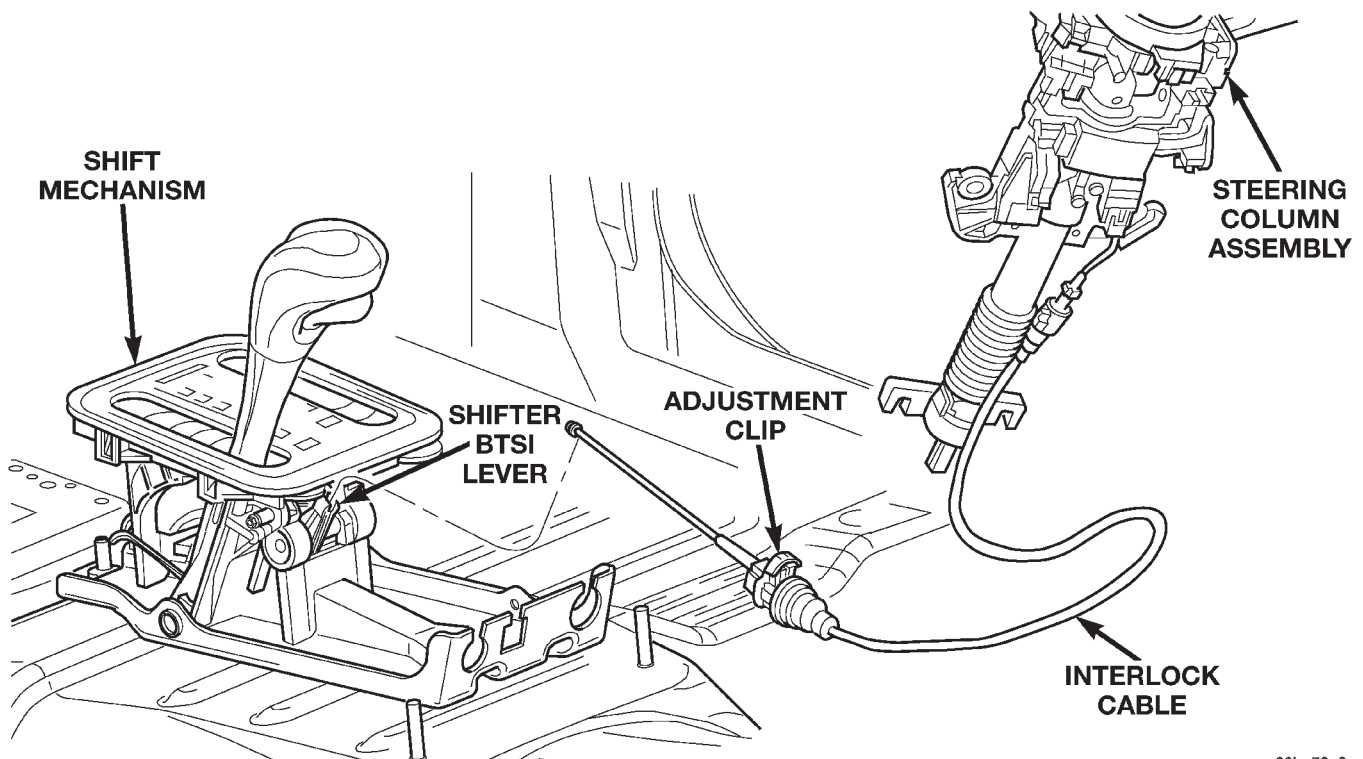

Fig. 256 Brake Transmission Shift Interlock Cable
- (1) Shift the transmission into the PARK position.
- (2) Turn ignition switch to LOCK position. **Be sure ignition key cylinder is in the LOCK position. Cable will not adjust correctly in any other position.**
- (3) Remove shift lever bezel and floor console as necessary for access to the brake transmission shift interlock cable.
- (4) Pull cable lock button up to release cable (Fig. 256).
- (5) Pull cable rearward. Then release cable and press lock button down until it snaps in place.